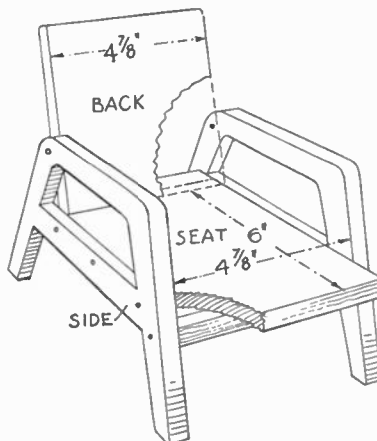

Fig. 3
The chair (B) is also of simple construction as Fig. 3 will show. As the sides of this chair are a little more